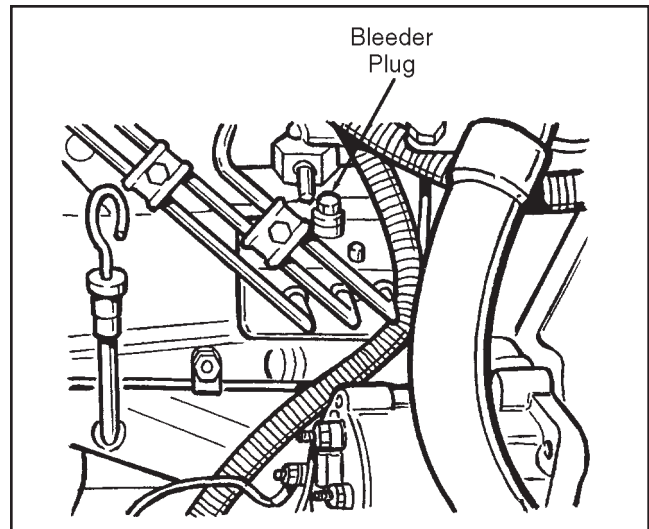

Figure 3D-6. Bleeder Plug
5. Open the bleeder plug located on top of the fuel injector (see Figure 3D-6).